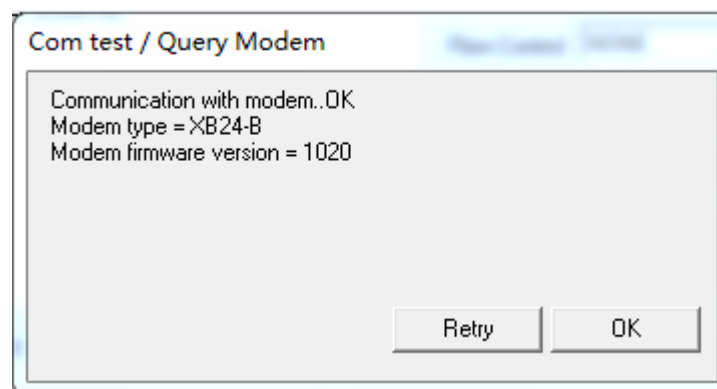

Figure 9: Successful connection
- 5) For a successful connection, you can see the dialog box as Figure 9 shows.